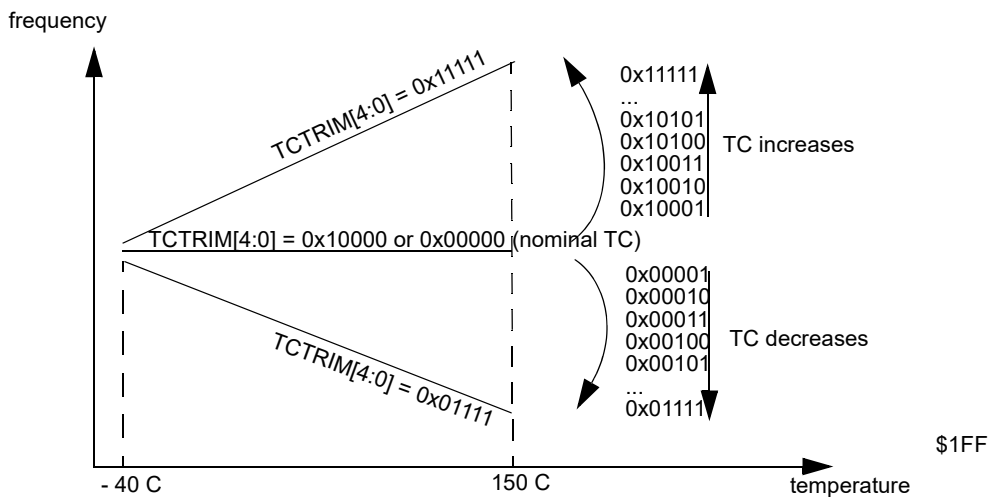

Figure 93. Influence of TCTRIM[4:0] on the temperature coefficient
15-11 TCTRIM	IRC1M temperature coefficient Trim Bits Trim bits for the Temperature Coefficient (TC) of the IRC1M frequency. <a href="#">Figure 93</a> shows the influence of the bits TCTRIM[4:0] on the relationship between frequency and temperature. <a href="#">Figure 93</a> shows an approximate TC variation, relative to the nominal TC of the IRC1M (i.e. for TCTRIM[4:0]=0x00000 or 0x10000).